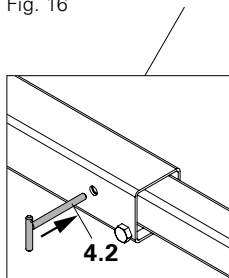

Fig. 16b
3. Secure fork arm with pin. (Fig. 16b)